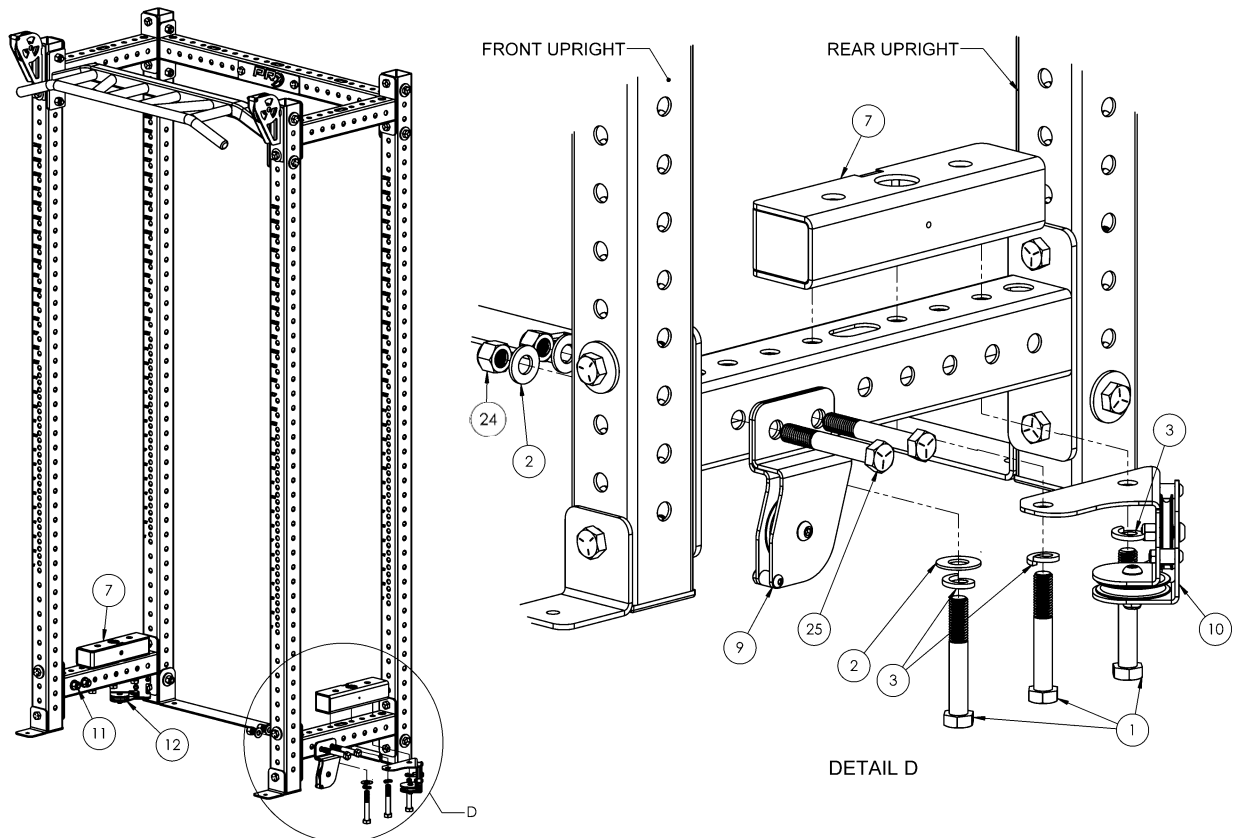

Figure 3
1. Attach the Bottom Weight Stack Bracket (7) and Right Rear Outer Return (10) on the back 18" crossmember. **Figure 3 Detail D**
2. Attach the Right Front Outer Return (9) in the first two holes behind the front upright. **Figure 3, Detail D**
3. Attach similar brackets to the left side of rack, Bottom Weight Stack Bracket (7), Left Front Outer Return (11), and Left Rear Outer Return (12). **Figure 3**